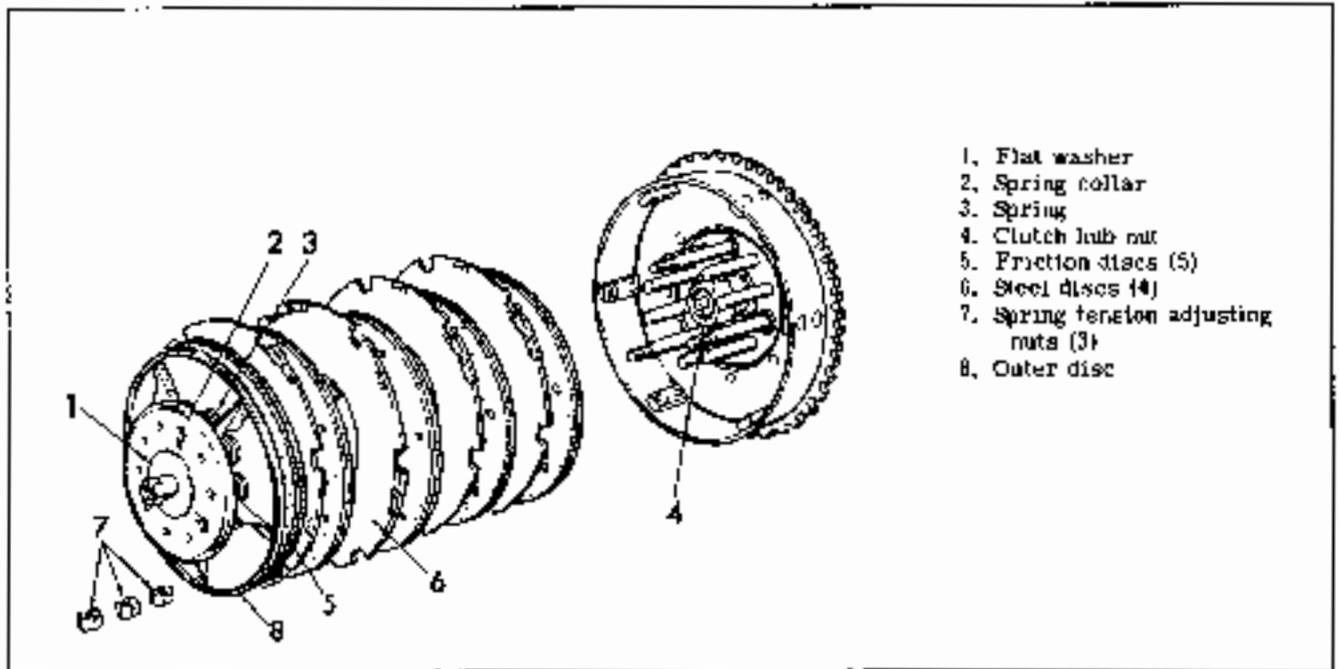

Figure 4-3. Removing Clutch
A new clutch is assembled so the distance from inner edge of spring collar (2, Figure 4-3) to the surface of the outer disc (6) is exactly 1-1/32 in. If springs are compressed so this distance is 7/8 in. or less, the clutch probably cannot be fully disengaged.
Remove push rod adjusting screw lock nut (1). Place a flat washer about 1/8 in. thick with 1-3/4 in. outside diameter and 3/8 in. hole over the adjusting screw (2). Replace lock nut and turn down until three spring tension adjusting nuts (3) are free. The nuts may then be removed and the spring collar-springs-outer disc assembly (4, 5 and 6) may be slipped off clutch hub dowels and studs as shown in Figure 4-3. Do not disassemble these parts unless